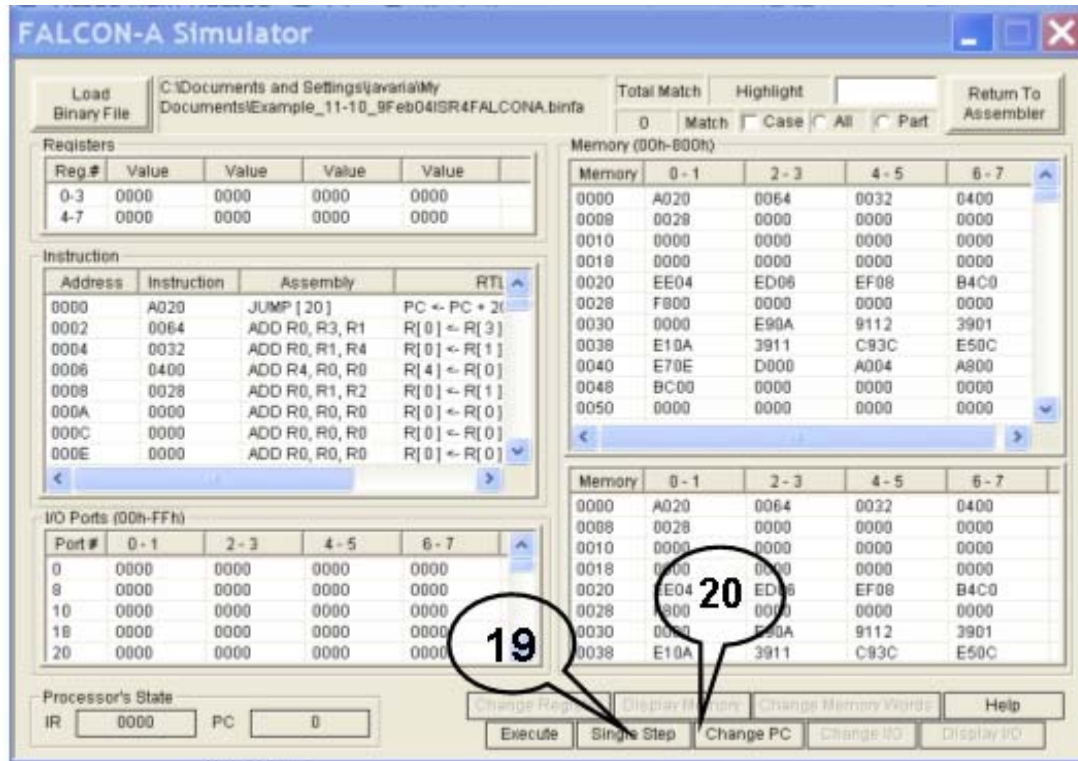

Figure 8
- This will open the simulation window with the executable program loaded in it as shown in Figure 8. The details of the different panes in this window were given in section 1 earlier. Notice that the first instruction at address 0 is ready for execution. All registers are initialized to 0. The memory contains the address of the ISR (i.e., 64h which is 100 decimal) at location 2 and the address of the printer driver at location 4. These two addresses are determined at assembly time in our case. In a real situation, these addresses will be determined at execution time by the operating system, and thus the ISR and the printer driver will be located in the memory by the operating system (called re-locatable code). Subsequent memory locations contain constants defined in the program.